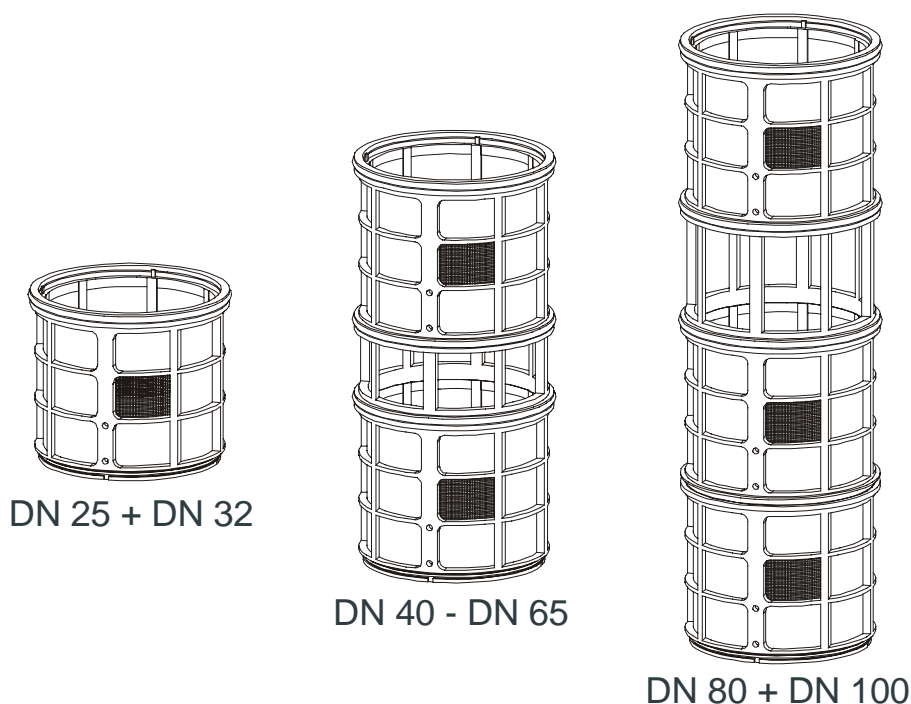

Fig. H-1: Filter element combinations
- Depending on the type of filter, different filter element combinations are assembled (see Fig. H-1). If a filter element is damaged, you can replace either the single element or the complete element set. The element sets can be detached via snap locks.